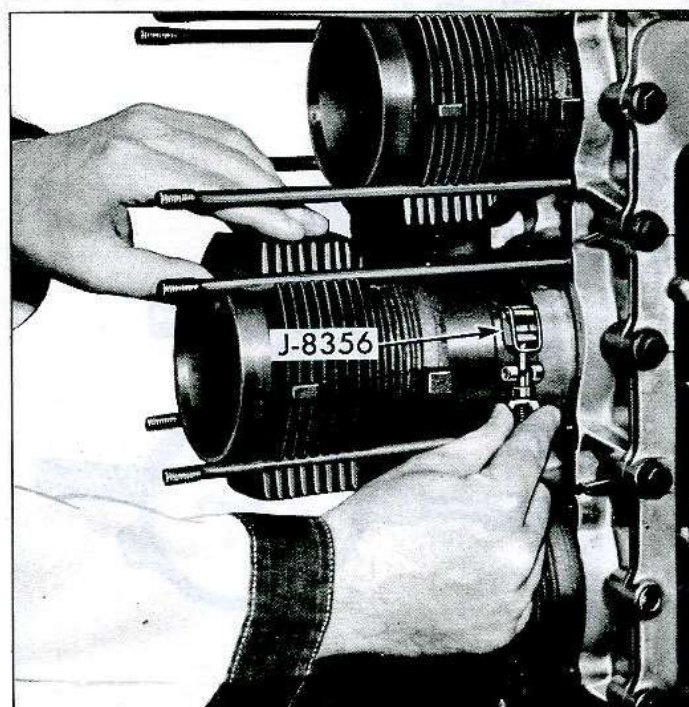

Fig. 40—Compressing Piston Rings
4. Lubricate piston rings with engine oil and slide Tool J-8356 over piston rings. Tighten Tool J-8356 just enough to compress piston rings (fig. 40).